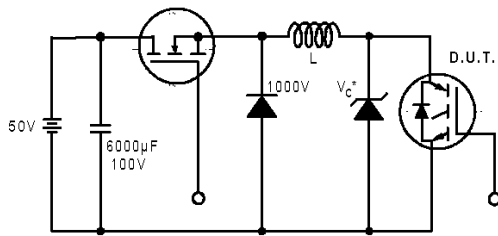

Figure 19. Clamped Inductive Load Test Circuit
- ② $V_{CC}=80\%(V_{CES})$, $V_{GE}=20V$, $L=10\mu H$, $R_G = 23\Omega$ (figure 19)
- ③ Pulse width $\leq 80\mu s$; duty factor $\leq 0.1\%$.
- ④ Pulse width $5.0\mu s$, single shot.
- ⑤ $t = 60s$, $f = 60Hz$